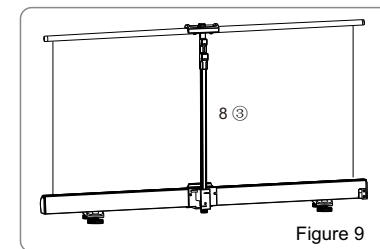

Figure 9
1. Push the uphold locker using one hand simultaneously pull down the uphold bar (8 \bar{y}) with another hand . Repeat the same action to low down the uphold bar (8 \bar{y}). (Figure 9)